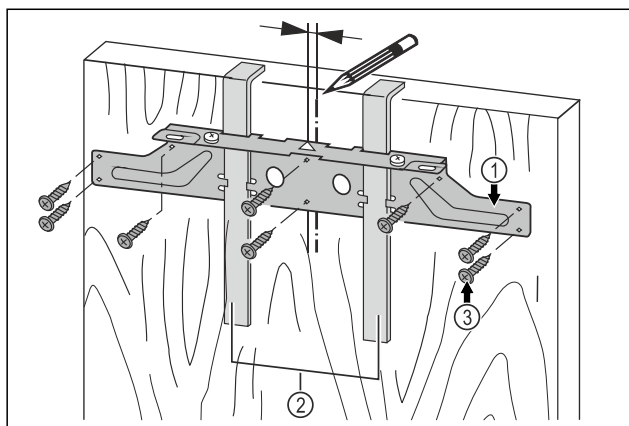

Fig. 19
- Align the fastening crossbeam Fig. 19 (1) in the center of the door.
- Left piping: Move the fastening crossbeam Fig. 19 (1) 6 mm (1/4 in) to the left.
- Right piping: Move the fastening crossbeam Fig. 19 (1) 6 mm (1/4 in) to the right.